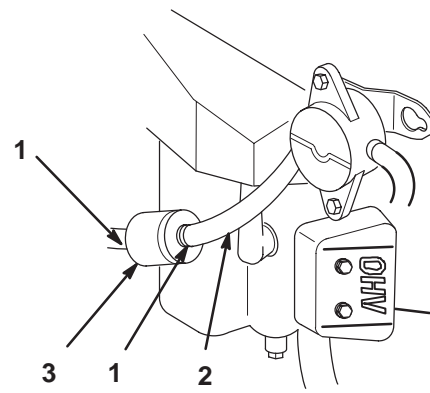

Figure 37
2. Close fuel shut-off valve at fuel tank (Fig. 37).
3. Squeeze the ends of the hose clamps together and slide them away from the filter (Fig. 37).
6. Open fuel shut-off valve at fuel tank (Fig. 37).
7. Check for fuel leaks and repair if needed (Fig. 37).